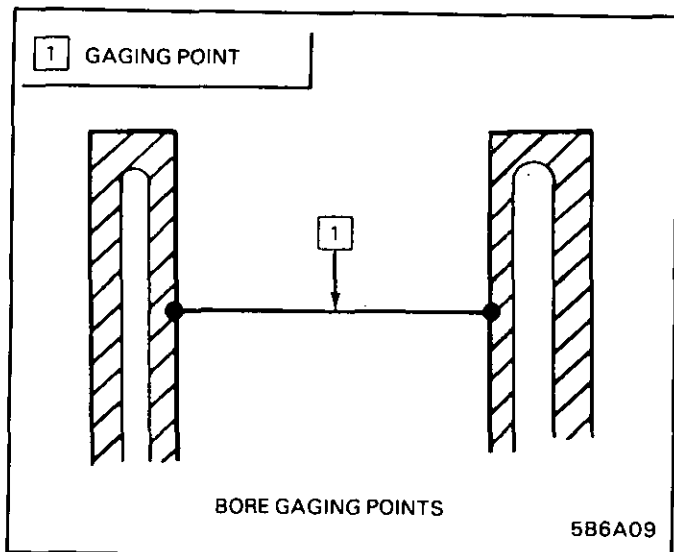

Figure 54 Cylinder Bore Gaging Point
2. Cylinder bore (Figure 54), refer to Cylinder Block. If worn beyond specifications, rebore and hone to size.